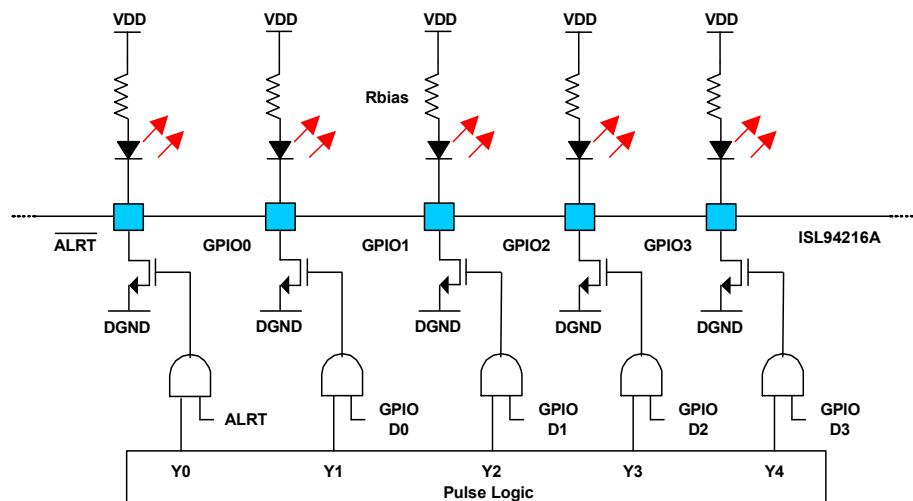

Figure 88. ALRT Pulse EN and GPIOx Drive LEDs
The ALRT Pulse Enable bit can be used to drive the ALRT pin in a more power efficient manner. When the bit is 1 and an alert is active, the ISL94216A turns on the ALRT pin output pull-down device for  $\text{GPIO}_{\text{pulse\_on}}$  (~2ms, page 17) within a  $\text{GPIO}_{\text{pulse\_per}}$  (~10ms, page 17) period. When this bit is 0 (Default) and an alert is active, the ISL94216A drives the ALRT pin LOW constantly. Figure 88 illustrates the circuit.
**Drive LED:** This option pulses the GPIO pins in a sequential manner to save power. Each GPIO pin is set LOW for  $\text{GPIO}_{\text{pulse\_on}}$  (~2ms, page 17) within a  $\text{GPIO}_{\text{pulse\_per}}$  (~10ms, page 17) period. A simplified schematic is shown in Figure 88. See 0x12.3:0 GPIO STATUS to set the state of GPIO output. Set the GPIO Status bit to 1 to light an LED or to 0 to shut it off.